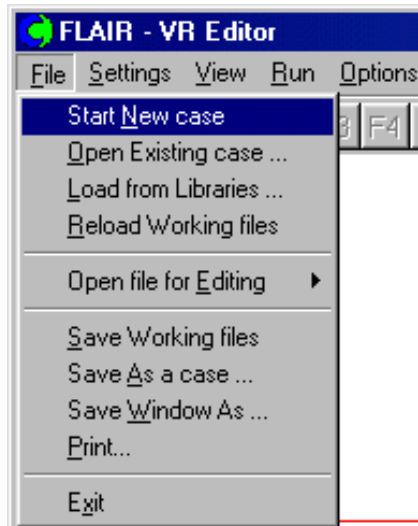

Figure 2.2a The 'File' menu
- Click on the 'File' button and then select 'Start new case', followed by 'FLAIR' and 'OK' as shown in figure 2.2a-b.